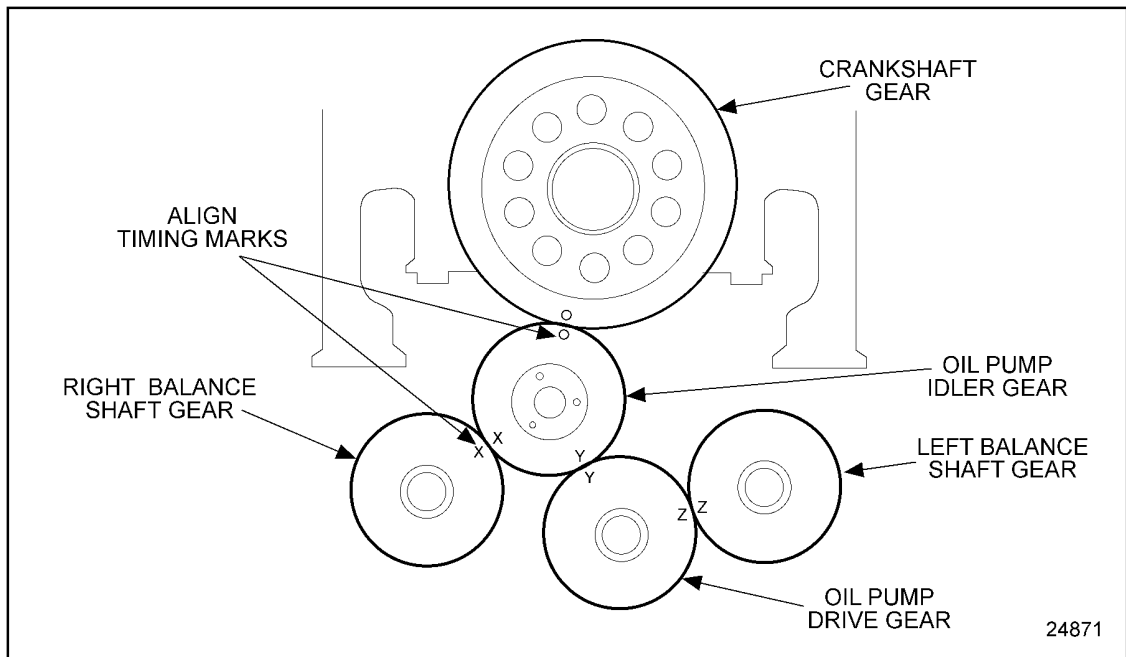

Figure 1-382 Balance Shaft Drive Gear Timing
2. Spin the pump/idler gears until the "Y" letters line up. See Figure 1-382. This may require up to 20 turns.
3. With the "Y's" lined up on the pump gear and idler gear, install the left and right balance shafts with the timing marks lined up as shown. See Figure 1-382.